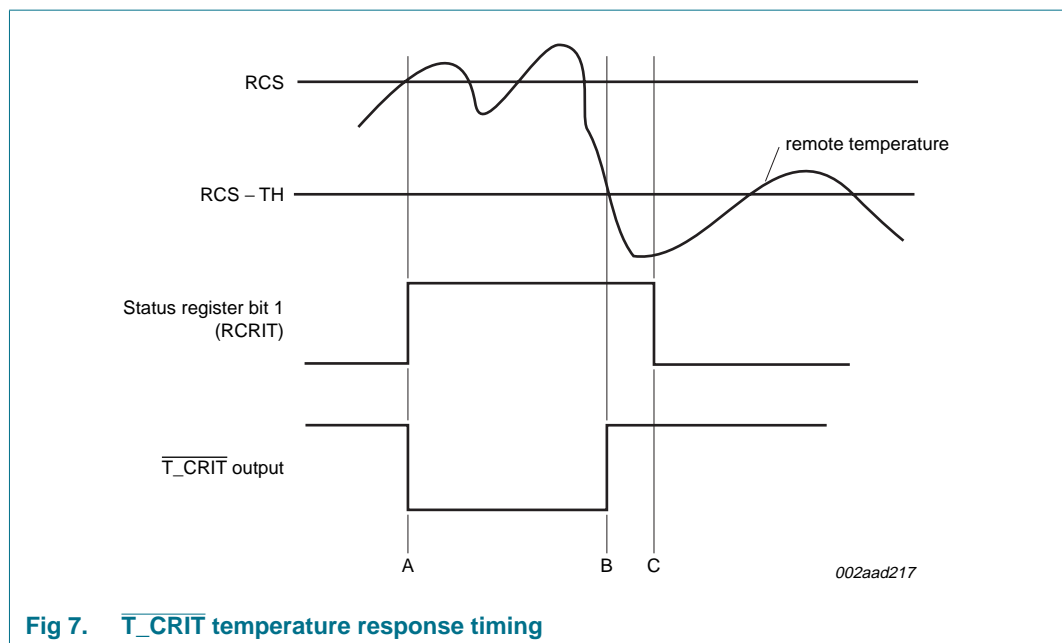

Fig 7. T\_CRIT temperature response timing
After every local and remote temperature conversion the status register flags and the T\_CRIT output are updated. Figure 7 is a timing diagram showing the relationship of T\_CRIT output, Status bit 1 (RCRIT) and the remote critical temperature setpoint (RCS), and critical temperature hysteresis (TH) with remote temperature changes. Note that the T\_CRIT output is de-activated only after the remote temperature is below the remote temperature setpoint, RCS minus the hysteresis, TH. In the interrupt mode only, the Status register flags are reset after the Status register is read.